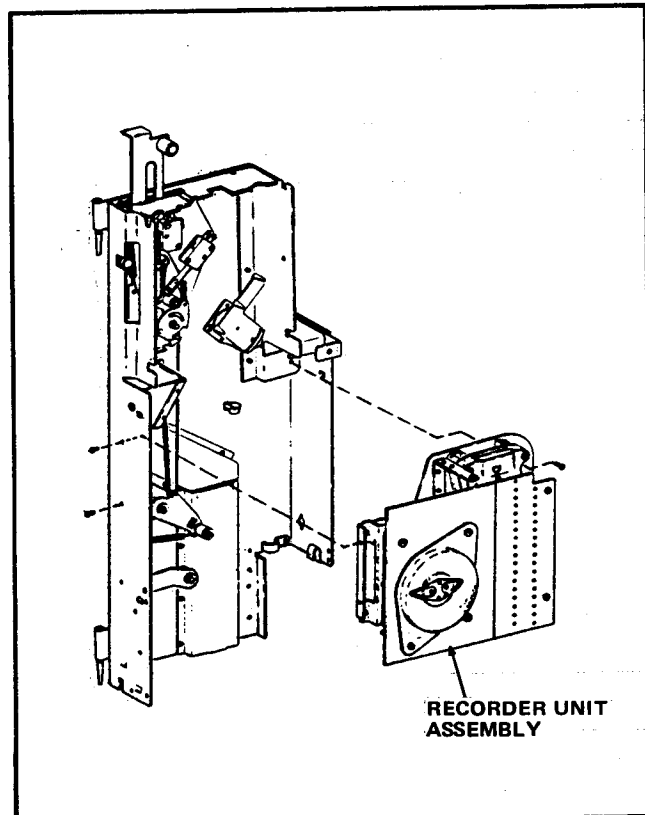

FIGURE 5
I. Remove the Recorder Unit Assembly (See Figure 5) as follows:
a. ACER 2500 and ACER 2505 only - Remove the Plugs of the 5 Coded Wires from the Pricing Receptacles on the Printed Circuit (PC) Board.
b. ACER 2501 and ACER 2510 only - Remove the Plugs of the 10 Coded Wires from the Pricing Receptacles on the Printed Circuit (PC) Board).
- c. ACER 5202 only - Remove the Plugs of the 3 Coded Wires from the Pricing Receptacles on the Printed Circuit (PC) Board.